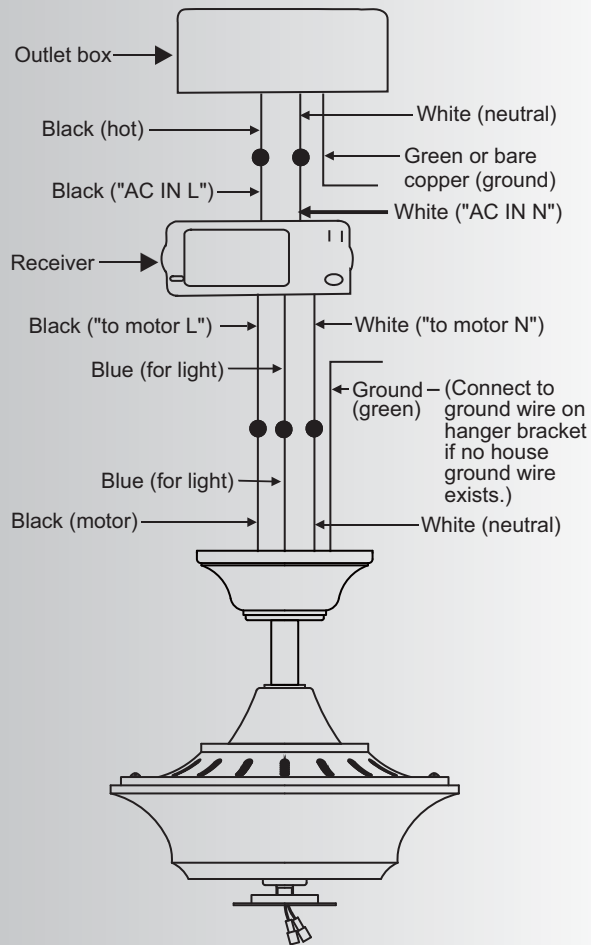

Fig. 14
Step 2. Motor to Receiver Electrical Connections: (Fig. 14) Connect the black wire from the fan to the black wire marked "TO MOTOR L" on the receiver.
Step 3. (Fig. 14) Receiver to House Supply Wires Electrical Connections: Connect the black (hot) wire from the ceiling to the black wire marked "AC in L" from the receiver. Connect the white(neutral) wire from the ceiling to the white wire marked "AC in N" from the Receiver. Secure the wire connections with the plastic wire nuts provided.
Step 4. (Fig. 14) If your outlet box has a ground wire (green or bare copper) connect it to the fan ground wires; otherwise connect the hanging bracket ground wire to the mounting bracket. Secure the wire connection with a plastic nut provided. After connecting the wires, spread them apart so that the green and white wires are on one side of the outlet box and black and blue wires are on the other side. Carefully tuck the wire connections up into the outlet box.